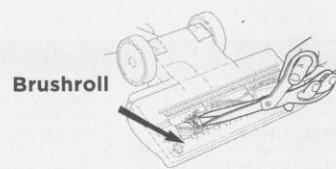

Fig. 25
- 2 Inspect the airway and the brushroll. Remove any debris buildup. With scissors, carefully cut away any fibers or hair wrapped around the brushroll. Avoid damaging or cutting the bristles. (Fig. 25)